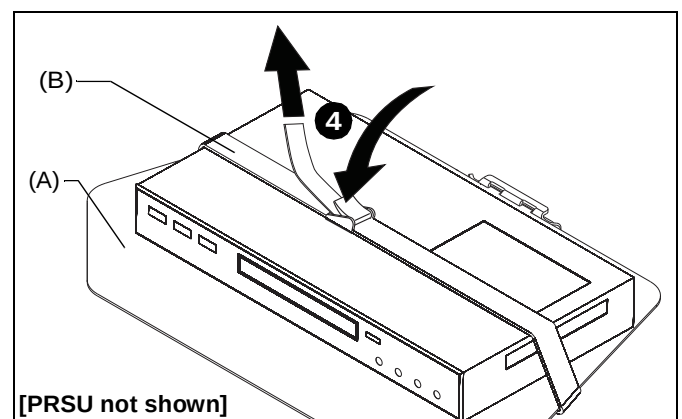

Figure 8
4. Pull strap (B) until tight around equipment and press clasp closed to secure. (See Figure 8)